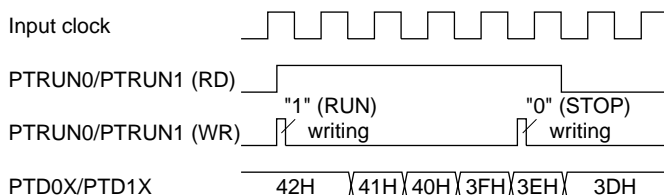

Fig. 7.2.1 Timing chart for RUN/STOP control
- (1) When reading counter data, be sure to read the low-order 4 bits (PTD00–PTD03, PTD10–PTD13) first. Furthermore, the high-order 4 bits (PTD04–PTD07, PTD14–PTD17) should be read within 0.73 msec (when f_{OSC1} is 32.768 kHz) of reading the low-order 4 bits (PTD00–PTD03, PTD10–PTD13).
- (2) The programmable timer actually enters RUN/STOP status in synchronization with the falling edge of the input clock after writing to the PTRUN0/PTRUN1 register. Consequently, when "0" is written to the PTRUN0/PTRUN1 register, the timer enters STOP status at the point where the counter is decremented (-1). The PTRUN0/PTRUN1 register maintains "1" for reading until the timer actually stops. Figure 7.2.1 shows the timing chart for the RUN/STOP control.